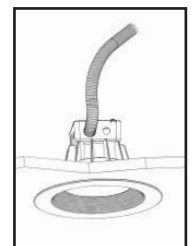

FIG. 5
6. Push the Housing Assembly with the top side of the Remodel Clips through the hole until tight. Continue to push the Housing Assembly until the fixture snaps into place with the trim tight against the ceiling. (FIG. 5)